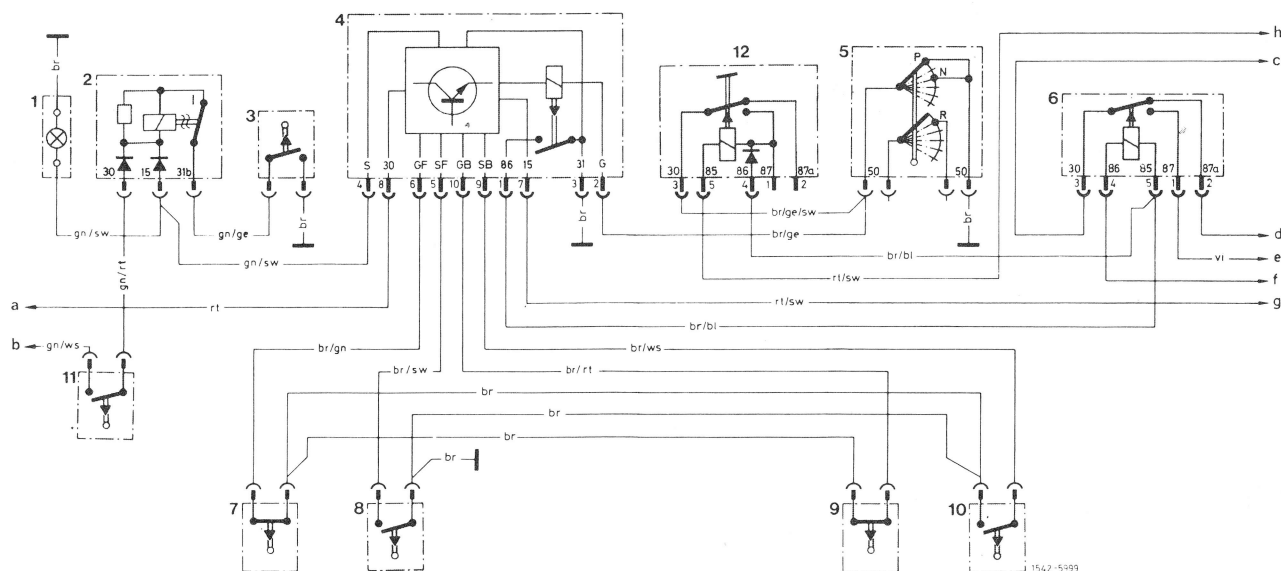

Fig. 1
The seat-belt warning system with starter interlock as known from model year 1974, has been equipped with an override switch (12) (Fig.1).